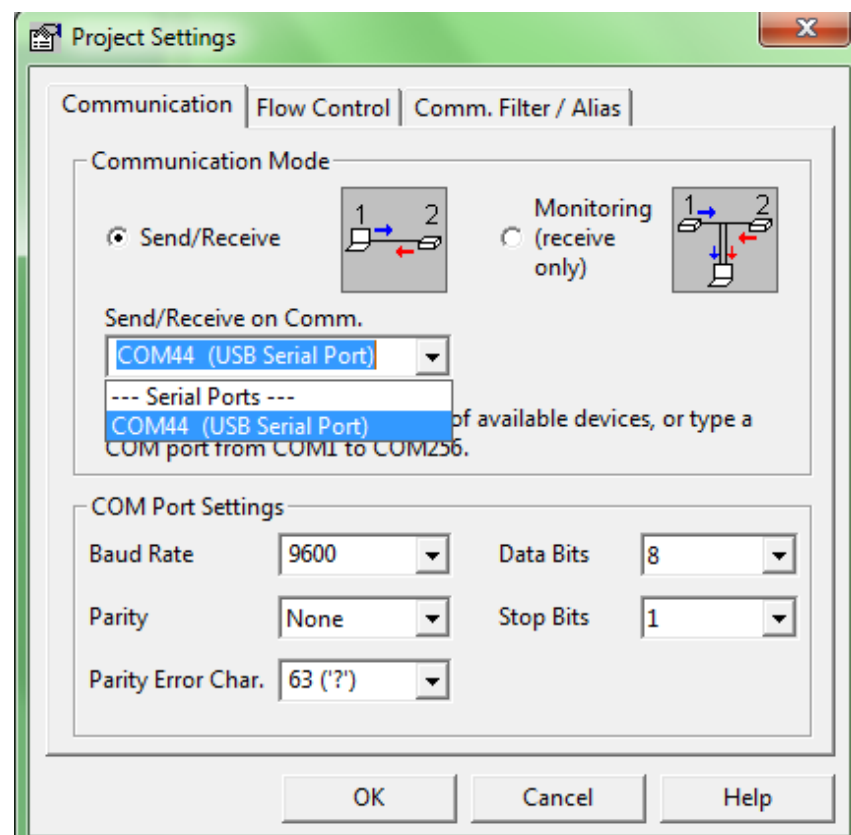

Figure 5: Docklight's Project settings window
5. Write 'Dump Connection' in Name box. Select HEX from 'Edit Mode'. Write 4D 09 01 0D 0A Hex Command in Sequence window and then click OK. [Figure 5]